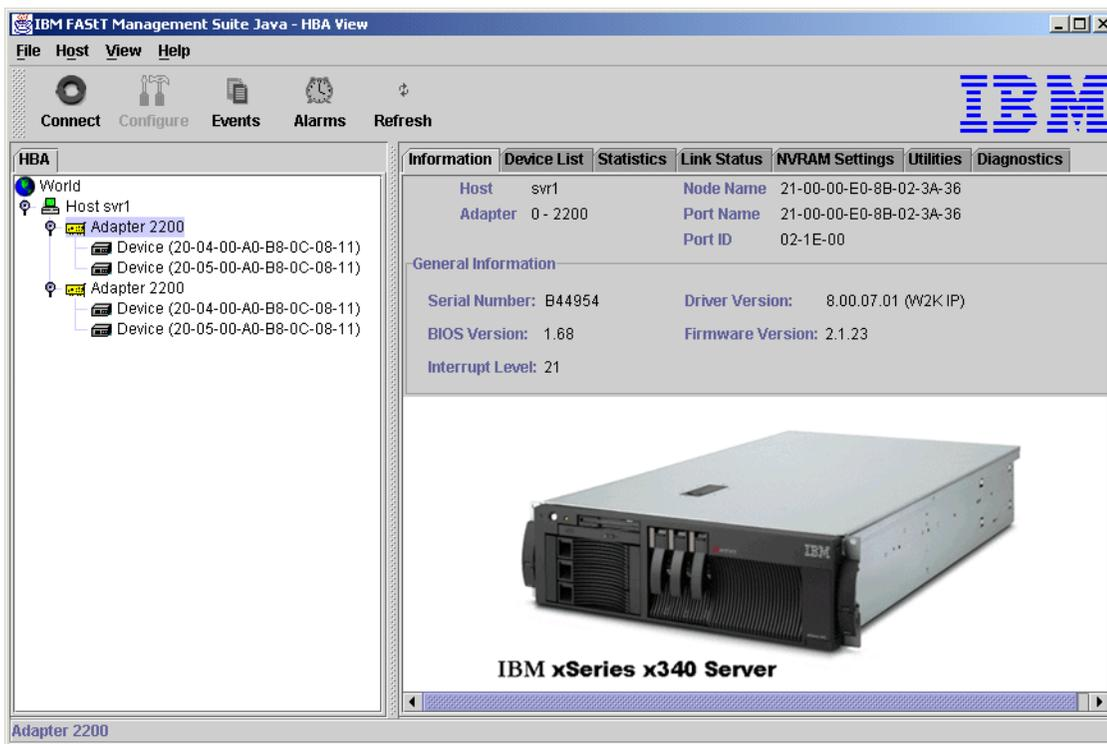

Figure B-5 HBA selected within IBM FAST Management Suite Java - HBA View window
- Click one of the Host Bus Adapters in the left-hand pane and the right-hand pane changes. There are now seven tabs as shown in Figure B-5: